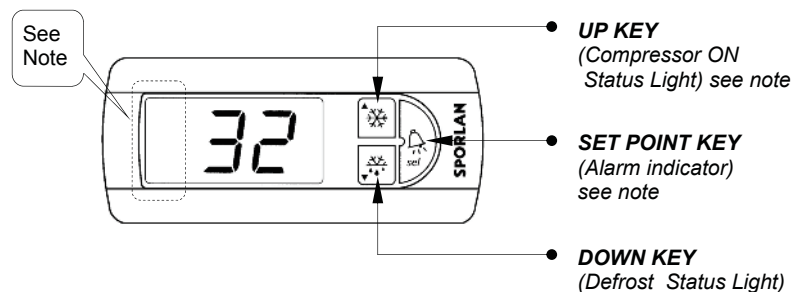

Figure 2
**NOTE:** Depending on the controller *revision model*, it will either have indicator lights on the buttons themselves (*see figure 2*) or (newer models) will have indicator symbols on the left side of the display. If so, these 3 status symbols will indicate the following: